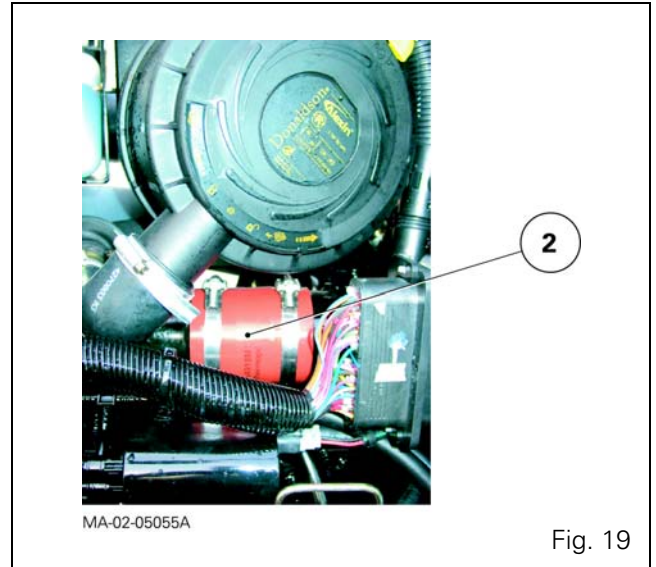

Fig. 19
- 42. If necessary, disconnect the air sleeve (2) from the cooler inlet (intake manifold inlet - Perkins EEM engine - Fig. 19).